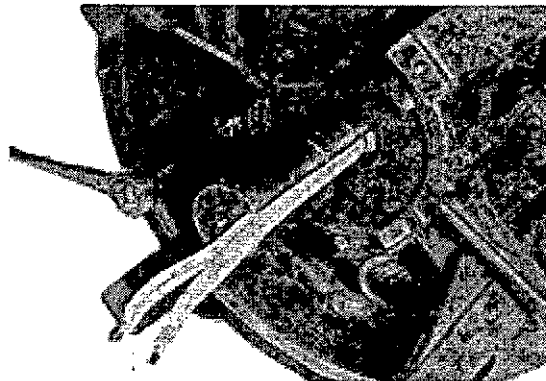
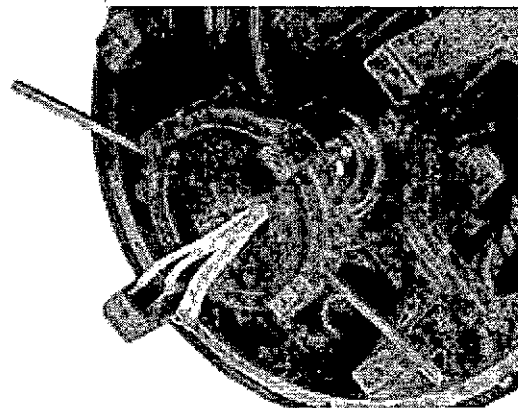
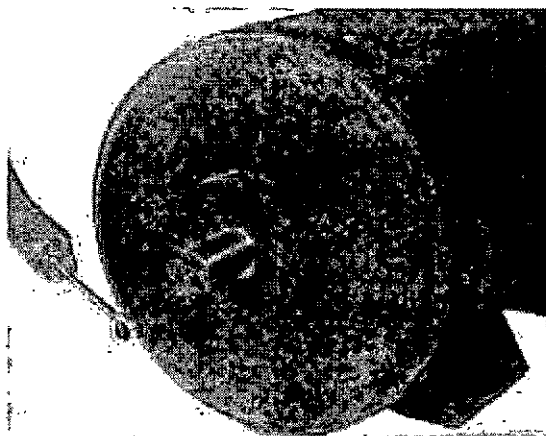

Figure 6-21
Figure 6-22
Figure 6-23
2. For single bearing generators, remove the four cap screws holding the bearing caps to the front-end bracket. (Figure 6-21.) Remove the outer cap. (Figure 6-22.)
For two-bearing generators, remove the drive coupling or sheave and key from the shaft extension. Remove the four cap screws holding the bearing lock to the drive end bracket. (Figure 6-23.) Remove the four cap screws holding the bearing caps to the front-end bracket. (Figure 6-21.) Remove the outer cap. (Figure 6-22.)